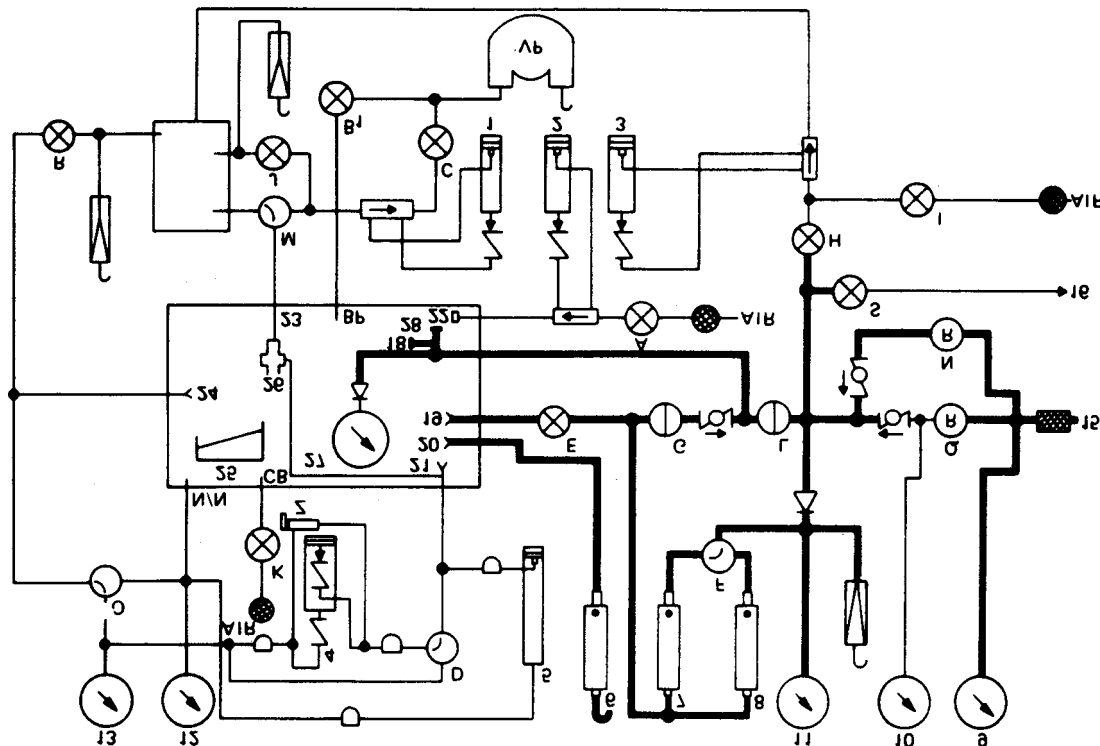

Figure 2-6.—Model 1172AS100 rotameter system.
two in-system rotameters and one overload rotameter as shown in figure 2-6. The source of pressure for the in-system rotameters is the low-pressure regulator (N). You receive your source of pressure for the overboard rotameter from the item under test.